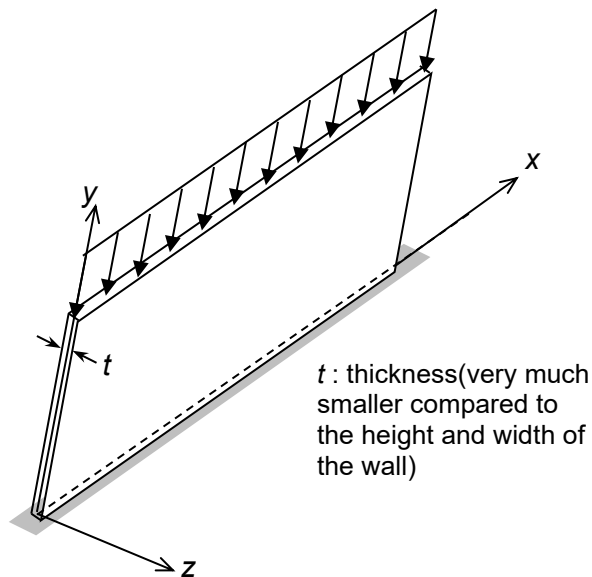

Figure 3
- (b). **Figure 3** shows a thin wall structure loaded with a uniformly distributed load w in y -direction. Justify why this problem can be solved as a plane stress problem.
Using a diagram of an infinitesimal volume taken from the interior of the wall in **Figure 3**, show clearly the non-zero stress components.